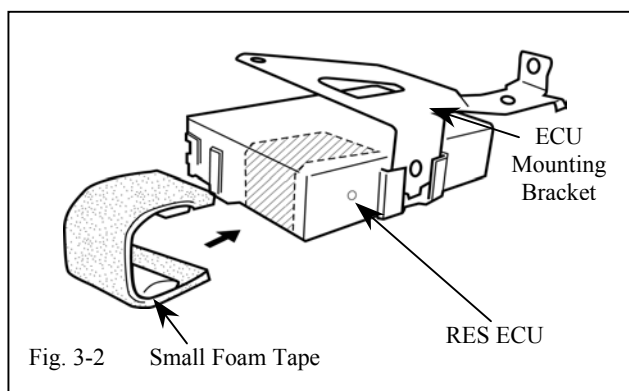

Fig. 3-2
- (b) Apply one piece of small foam tape to the edge of the RES ECU as shown. (Fig. 3-2)